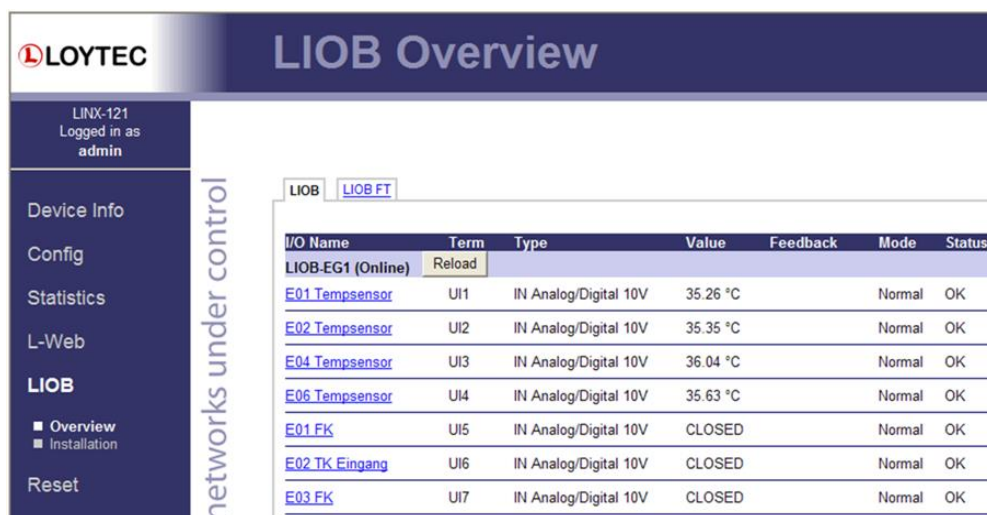

Figure 19: Test L-IOB inputs and outputs on the Web UI.
- After downloading the L-INX configuration into the L-INX device, the L-IOB input and output terminals can be tested with the L-INX Web UI. An example is shown in Figure 19.